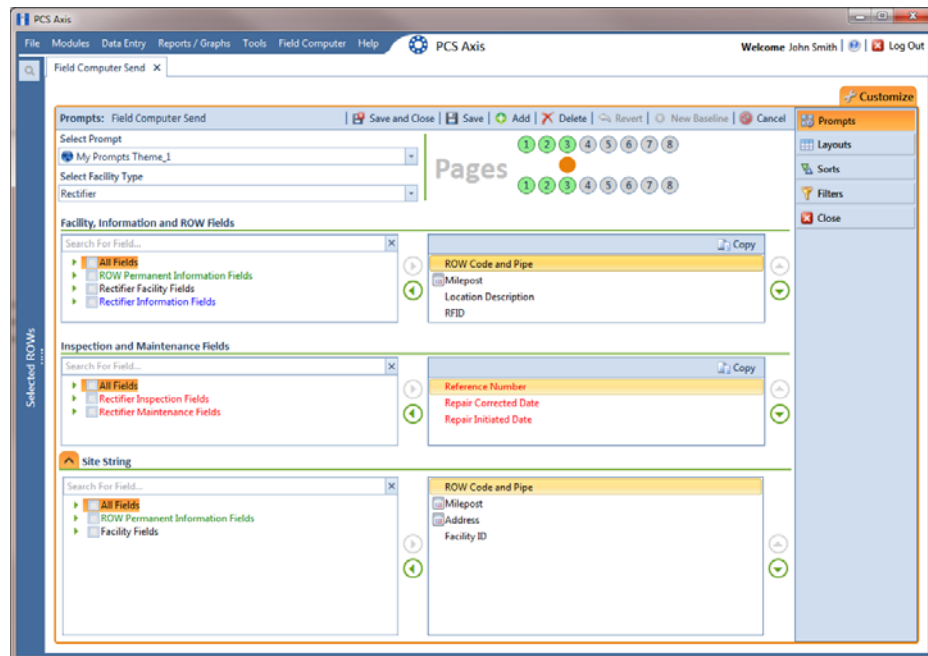

Figure 13-31. Prompts
- a Click the **Site String** tab to view a list of fields available for selection (Figure 13-31, page 584).
Information fields in *Facility, Information, and ROW Fields* automatically copy to each page of prompts. The following example shows three pages of prompts (Figure 13-31, page 584).
Information fields in *Facility, Information, and ROW Fields* automatically copy to each page of prompts (Figure 13-31, page 584).